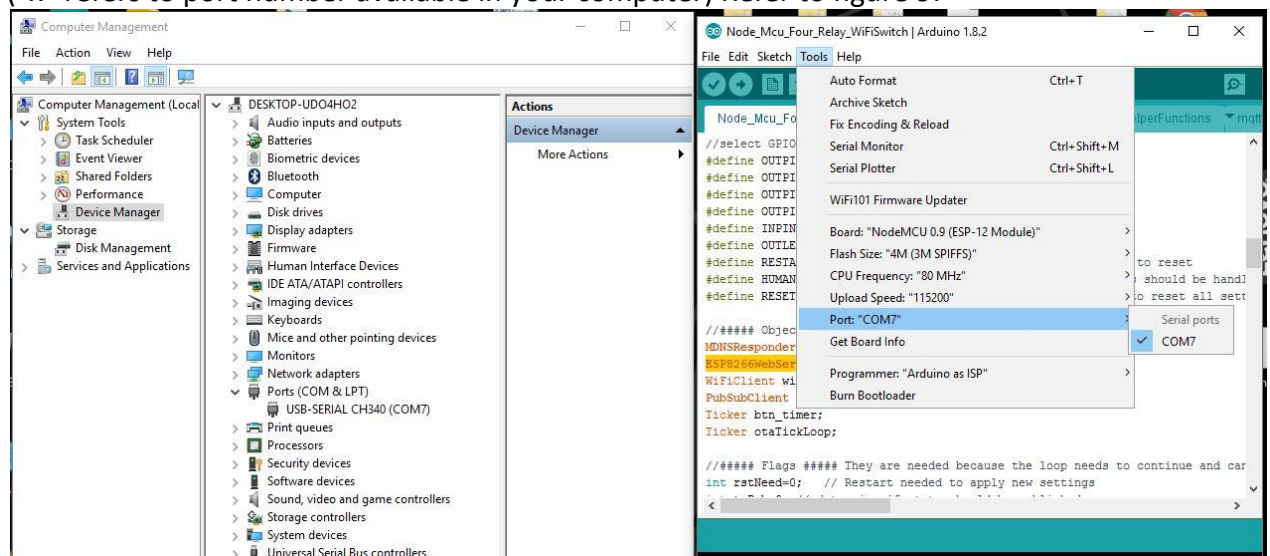

Figure 9: COM port selection.
8. Click on tools tab, move mouse pointer to "Port: "COMx", under this click on "COMx" to select. ("x" refers to port number available in your computer) Refer to figure 9.